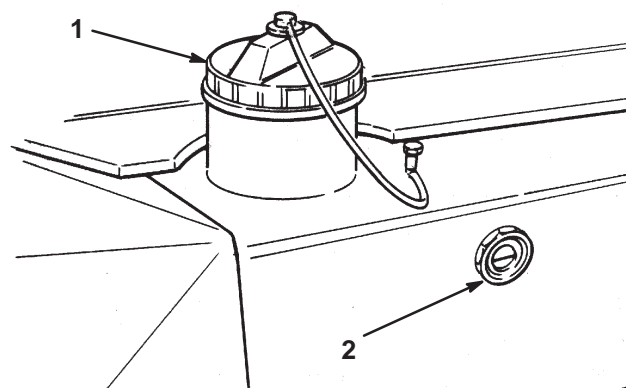

Figure 25
2. Check the fluid level by viewing it in the sight gauge (Fig. 25). If the fluid is cold, the level should be at the bottom of the gauge. If the fluid is hot, the level should be at the center of the gauge.
3. If the fluid level is not at least at the bottom of the gauge when it is cold, remove the cap from the hydraulic fluid reservoir (Fig. 25) and slowly fill the